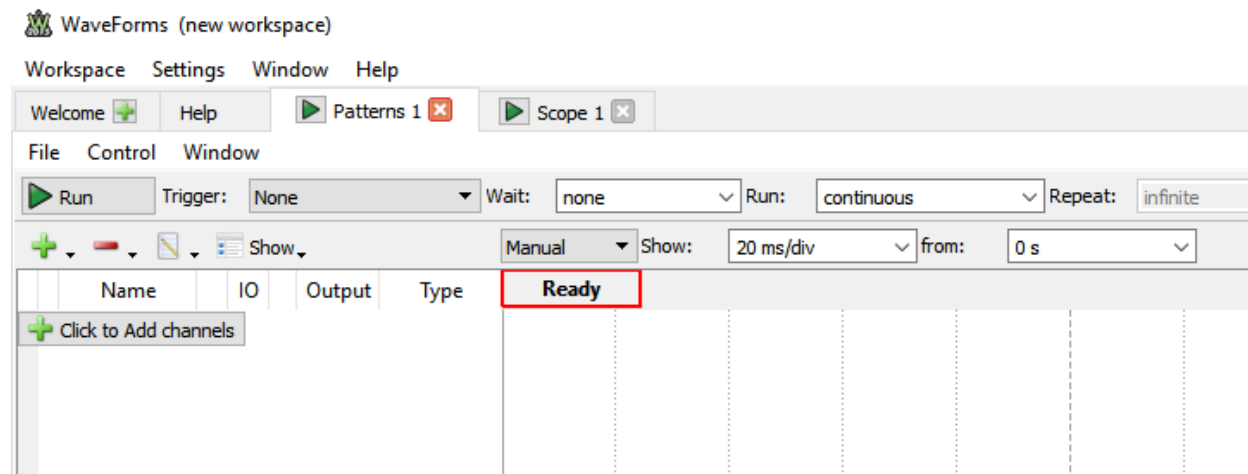

Figure D-1
8. Reconstruct one of the resistor, LED combinations and connect the top of the resistor to Digital Channel 0. Ground the other end of the LED. Open Patterns and make sure that it is set to run in continuous mode. Change the display to Manual and Show: 20ms/div from: 0s, as shown in Figure D-1. This time scale is chosen because the goal will be to create a 100Hz square wave with a specified duty cycle.